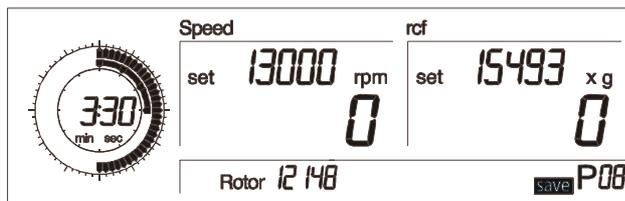

Fig. 5.16: Saving programs;
- Turn the left rotary knob until “save” appears on the display (Fig. 5.16).